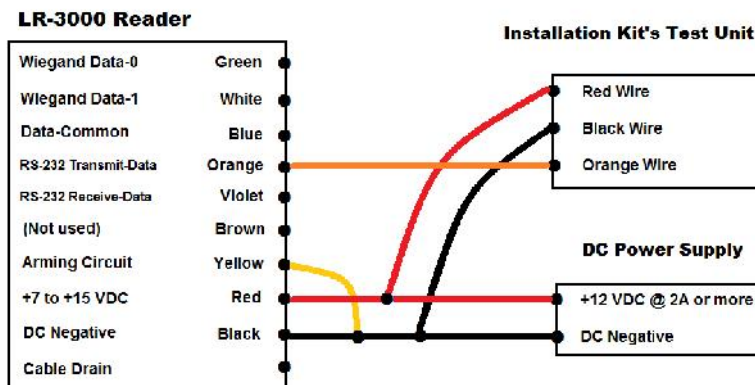

Figure 1. Connections for Pre-Installation Testing
2. Connections: Connect the 3 negative wires (**black** wires) on the reader, test unit, and power supply, plus the reader’s **yellow** wire. Connect the reader’s **orange** wire to the test unit’s **orange** wire. Connect the 3 positive power wires (**red** wires) on the reader, test unit, and power supply. See Figure 1 for test wiring.